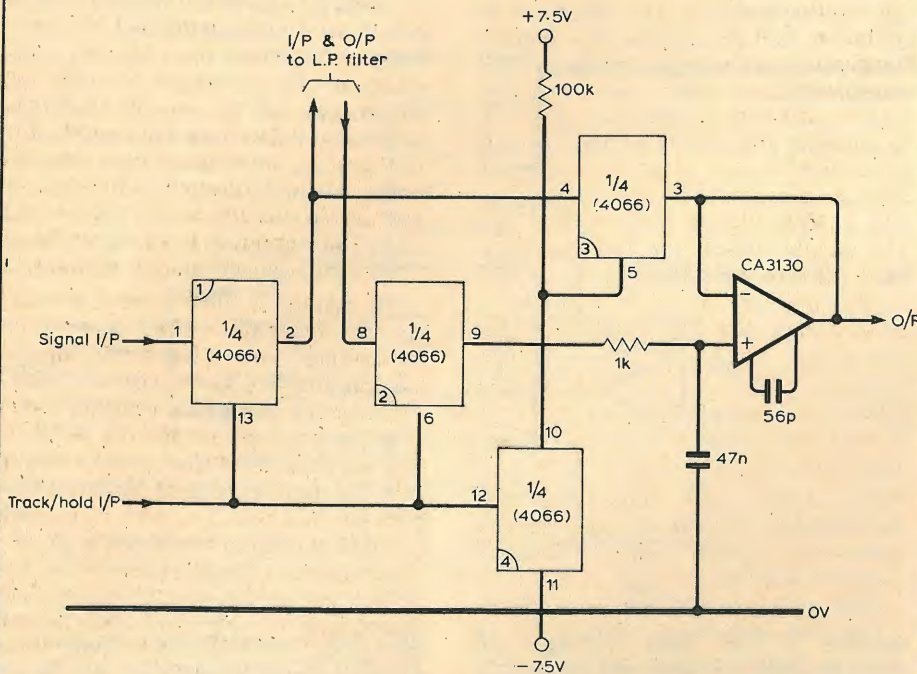

Fig. 6. Track/hold and filter-switch, which corresponds to blocks of Fig. 1(a).
**Track hold and filter switch.** The principle of the circuit of Fig. 6 is as described earlier with reference to Fig. 1(a). The three switches of Fig. 1(a) are contained in a quad bilateral switch i.e. type 4066. (This was used in preference to the 4016 type because it has a lower on resistance.) Each switch of the quad package is shown separately as an individual circuit block with appropriate pin connections. The switches  $S_1$ ,  $S_2$  and  $S_3$  of Fig. 1(a) are shown in Fig. 6 as circuit blocks 1, 2 and 3 respectively. As switch  $S_3$  is normally open when  $S_1$  and  $S_2$  are closed, the remaining switch, circuit block 4, is used to control its operation. When tracking the input signal the input to the track/hold circuit is at the logic 1 level. Under this condition circuit blocks 1, 2 and 4 are in their on state. The on state of circuit block 4 produces a logic 0 level at the control input of circuit block 3, with the result that it is held in its off state. When the track/hold input becomes logic 0, circuit blocks 1, 2 and 4 go into their off states, but circuit block 3 goes into its on state. Thus the correct operation of the three circuit blocks 1, 2 and 3 is controlled by the logic level on the track/hold input.